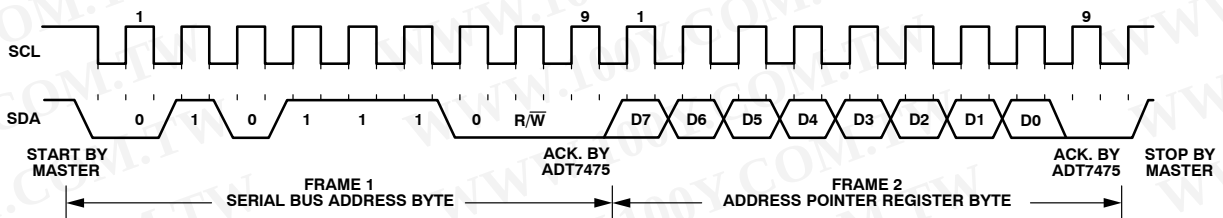

Figure 14. Writing to the Address Pointer Register Only
- If the ADT7475 address pointer register value is unknown or not the desired value, it must first be set to the correct value before data can be read from the desired data register. This is done by performing a write to the ADT7475 as before, but only the data byte containing the register address is sent, because no data is written to the register see Figure 14.